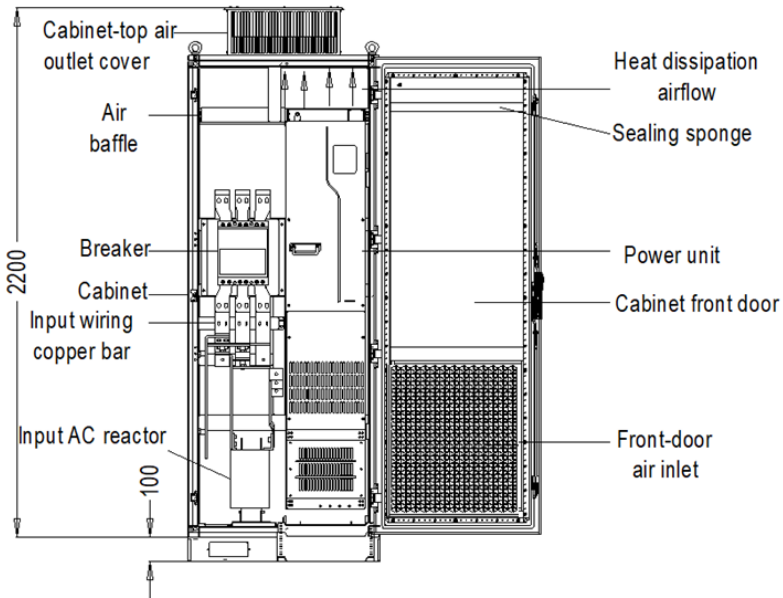

Figure 4–10 Recommended cabinet layout
- ✧ The VFD can be pushed into or out of the cabinet only after the casters are aligned with the rail. To ensure safety, arrange two people to push the VFD into or out of the cabinet. See Figure 4–15 and Figure 4–16.
- ✧ For in-cabinet mounting, see the cabinet layout diagram Figure 4–10. The cabinet frame is $2200 \times 800 \times 600$ (unit: mm, including the H200 cabinet ventilation top cover). To secure the in-cabinet mounting, you must mount the H100 cabinet base. The air baffle must be mounted at the top of cabinet to prevent the hot air in the VFD outlet from circulating within the cabinet. A 40×40 sealing sponge must be used at the position corresponding to the air baffle in the front door panel, which prevents air duct short circuit. In addition, air inlet vents must be made at the lower of the cabinet door.
1	Mount the crossbeam for VFD fixing in the nine-fold profile cabinet. (See Figure 4–11.)